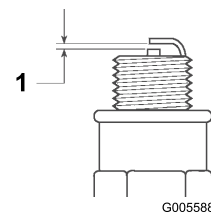

Figure 50
4. Set the air gap between the center and side of the electrodes at 0.76 mm (0.03 inch) (Figure 50).